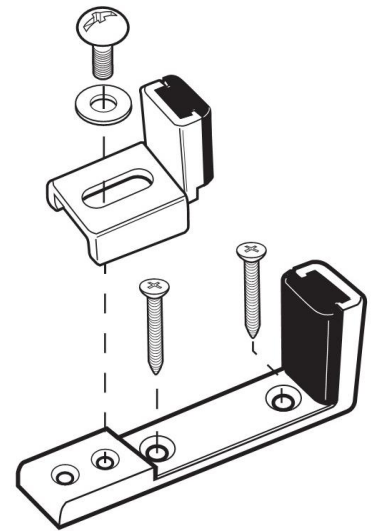

Figure 14A
The Bottom Door guide (V) keeps the door from swinging outward away from the wall. To locate the proper installation position in the floor, slide the door into the closed position and mark the outside edge of the door on the floor. Now place the door into the open position and mark the inside edge of the door on the floor. Make sure your guide location is well marked. Make sure that whether the door is in the open or closed position, that the door NEVER leaves the Door guide. This is the proper location for the Door guide. Set the width of the floor guide to 1 1/2". Slide the door out of the way and place it on the floor in between the 2 marks. Pre-drill holes if necessary for your floor type. Using a drill and the screws provided, secure the Door guide to the floor. See **Figure 14A-14B-14C**.